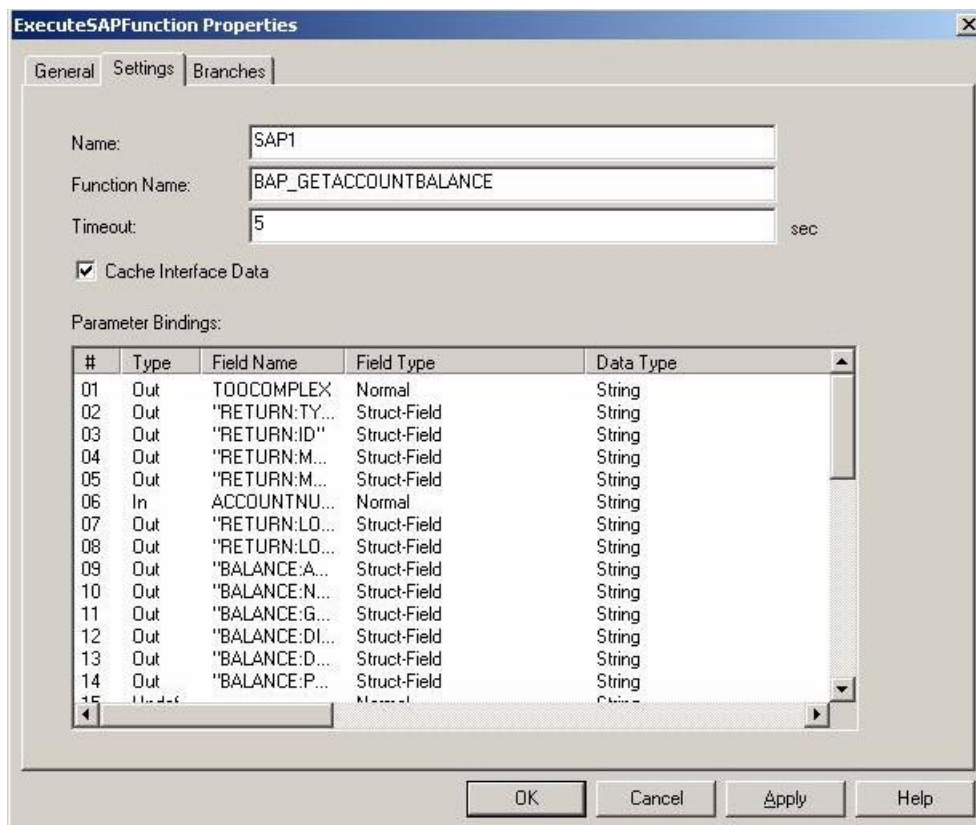

Figure 7: Settings Tab of ExecuteSAPFunction Properties Dialog Box
In the ExecuteSAPFunction block the user configures input and output variables, to bind the resulting parameters based on the types selected, see Figure 7. Return branches are Success, Failure or No Data Found.
1. Enter **Name** and **Function Name** of the connected SAP system (see Figure 7).